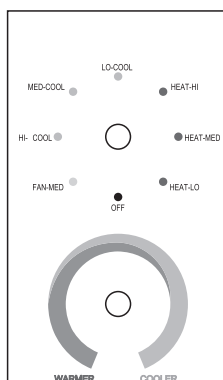

Fig.06 Rotary switch control
- . Turn the MODE switch in either positions (see Fig. 06) : Fan-Hi, cool-Med, cool-Lo, cool-Heat, Hi-Heat, Med-Heat, Lo-Off
- . Rotate the thermostat knob to the left to increase setpoint temperature OR to the right to decrease (see Fig. 06)